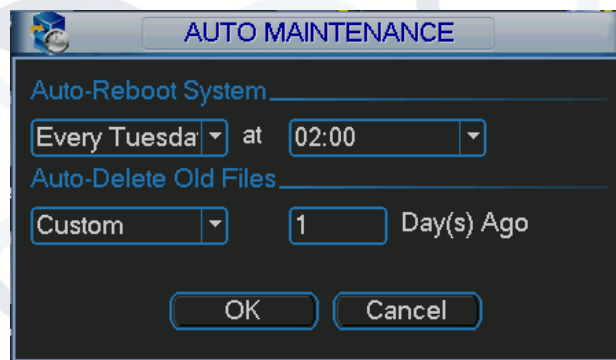

Figure 5-92
- Here you can set auto-reboot time and auto-delete old files setup. You can set to delete the files for the specified days. See Figure 5-92.